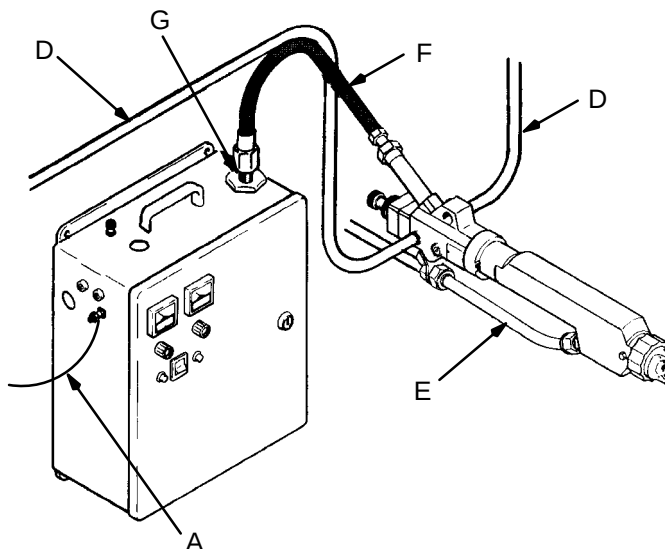

Fig 2
2. Connect the air supply lines (D) to the gun. Refer to Fig 2.
3. Connect the fluid line (E) to the gun fluid inlet.
1. Insert the high voltage cable (F) into the insulator tube of the gun and tighten the cable with the retaining nut.
2. Route the high voltage cable (F) from the gun to the power supply cable connection (G). See Fig 2. To avoid permanent cable indentations and cable failures caused by unnecessary stress to the cable, be sure to take the following precautions:
Before connecting the gun's high voltage cable (F) to the high voltage cable connection (G), fill the cable connection with 16 cc of transformer oil (Part No. 218-018, supplied). Refer to Fig 2. **Failure to do so will cause severe damage of the power supply.** Check the level of oil every three months, minimum. Fill as needed.
4. Plug the gun's high voltage cable (F) into the high voltage cable connection (G) on the power supply. Hand tighten the connector nut.